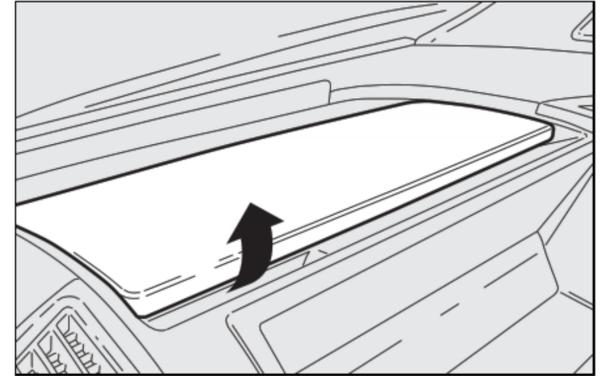

fig. 73
**UPPER ODDMENT COMPARTMENT - REFRIGERATED COMPARTMENT (where provided) fig. 73**